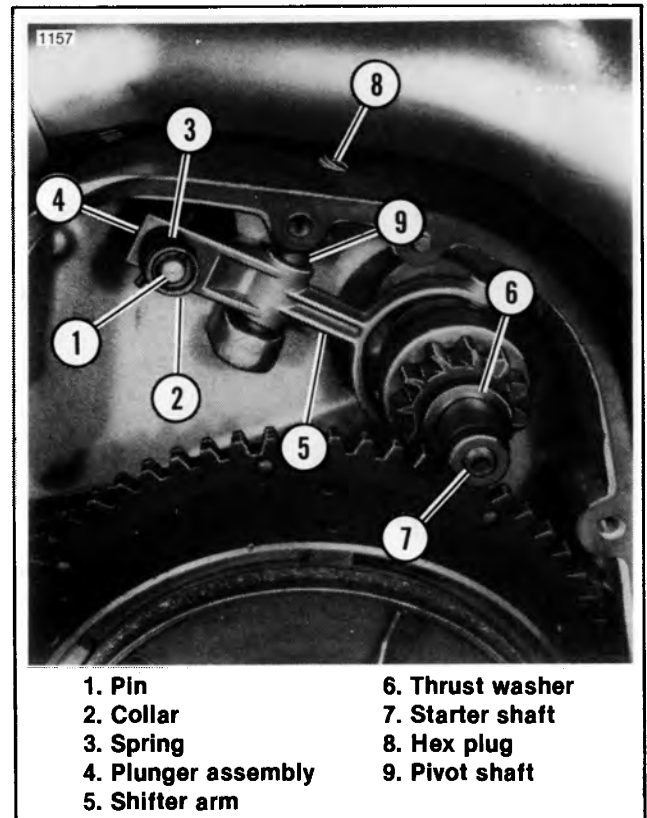

Figure 5-15. Starter Shaft
- See Figure 5-15. Remove the pin (1), collar (2) and spring (3). Pull the plunger assembly (4) out from the right side of the motorcycle.
1. See Figure 5-15. Place the plunger (4) into the primary chain housing so the plunger shaft protrudes through the shifter arm (5). Install the spring (3), collar (2) and pin (1).